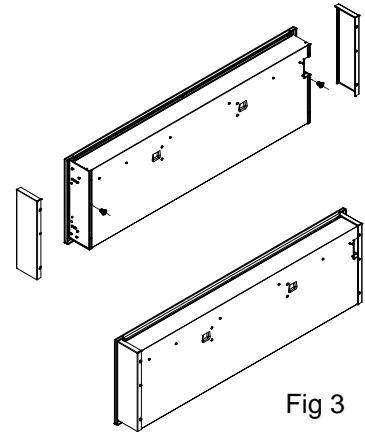

Fig 3
5. Screw the left and right side steel panel to the left and right side to cover the screws. See Figure 3.